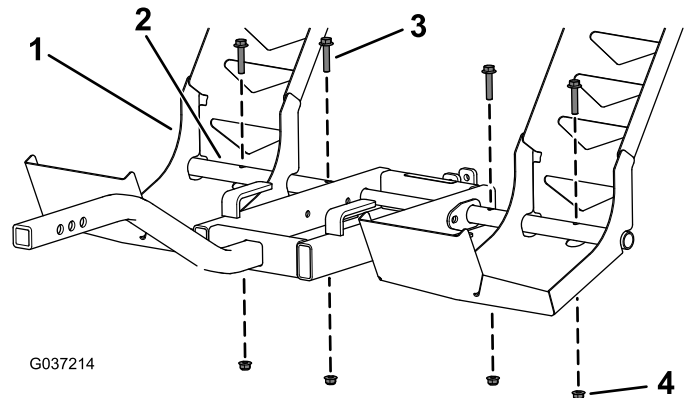

Figure 5
4. Align the holes on the spreader-pivot shaft with the holes on the left and right spreader ramps, and secure them using the 4 flange-head screws (5/16 x 1-1/2 inches) and 4 flange nuts (5/16 inch) as shown in Figure 5.